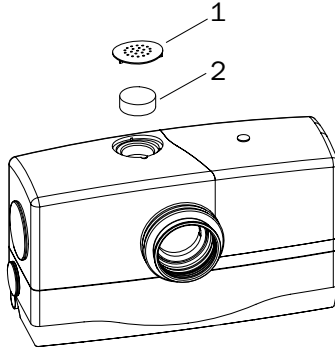

Figure 10
2. Remove the filter cover and the carbon filter (see page 43, fig. 10).